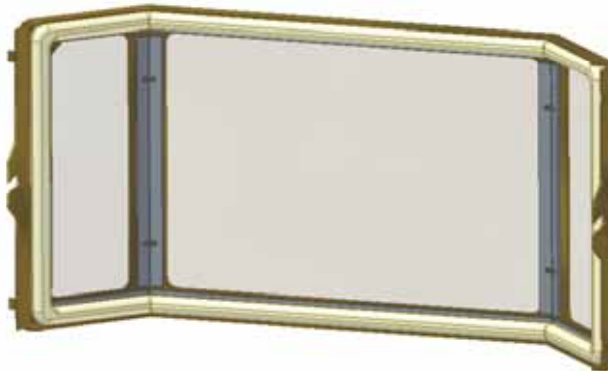

FIGURE 24: DOOR ASSEMBLY
9. Reinstall assembly, FIGURE 24 to stove body. Close door latches, securing assembly to Bayvue DV.
Always open the two magnetically latched side panels before opening the large viewing door. Test for a good seal around the face of the door to the body of the appliance. To test the seal, place a piece of paper between the body of the stove and the door, close and latch the door. Try pulling the paper from the door. If the paper is easily removed, tighten the latches and secure the latch with the locking nuts. Once adjustments have been made, test the door seal again. The test should be tried at several locations around the doorframe. If the paper is easily pulled out no matter where the test is taken, it is probably time to replace the heavy door rope gasket shown in FIGURE 24 below. If there is any concern about a proper seal or the condition of the door rope gasket or glass tape, contact a local authorized Country Flame Dealer or a certified technician for assistance.